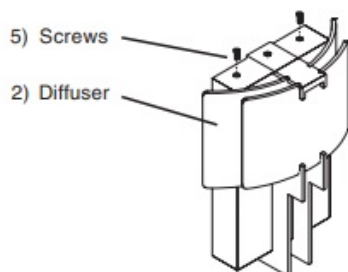

Fig 2
2. Rotate or position Sconce housing (1) so LED's are at the top and the drivers is on the bottom.
3. DLSD3-Install Mounting Bracket (3) by inserting Screw (4) through hole in mounting bracket and secure to housing. Install second screw through slot in bracket and secure to housing. See Fig 1. Align holes in Diffuser (2) with holes in mounting bracket and secure with Screws (5). See Fig. 2.
3. Align holes in Diffuser (2) with holes in mounting bracket and secure with Screws (5). See Fig. 2.